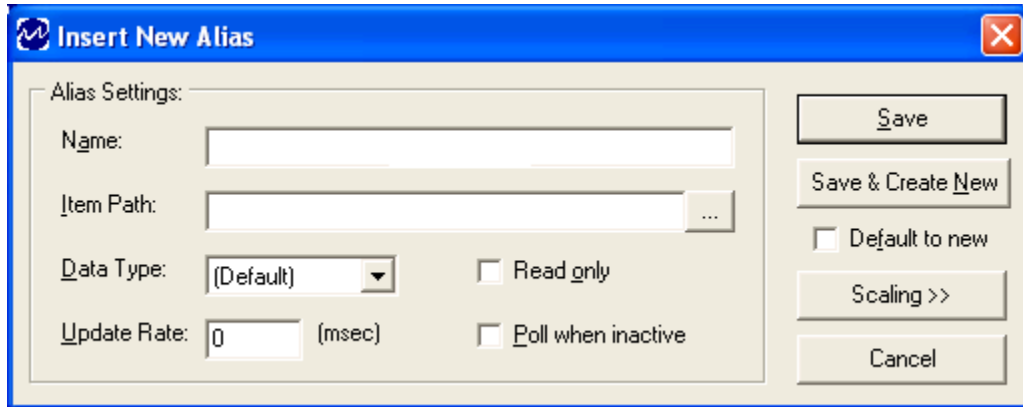

Figure 43 - Insert New Alias Window
Use the **Insert New Alias** window (Figure 43) to insert a new alias into an Alias Group, or insert a new alias on its own directly under the Alias Configuration node.
4. The **Insert New Alias** window (Figure 43) appears.
Note: Aliases can be edited after they have been created using the **Edit Alias** window. This is virtually the same as the **Insert New Alias** window (Figure 43), with the exception that it appears after the alias has been created.